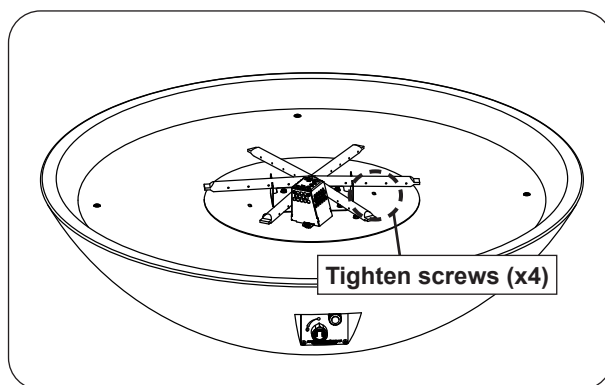

Fig. 34-3 Secure burner (if applicable)
2. Use a $\frac{5}{16}$ " nut driver to fasten the burner to the base (see Fig. 34-3).